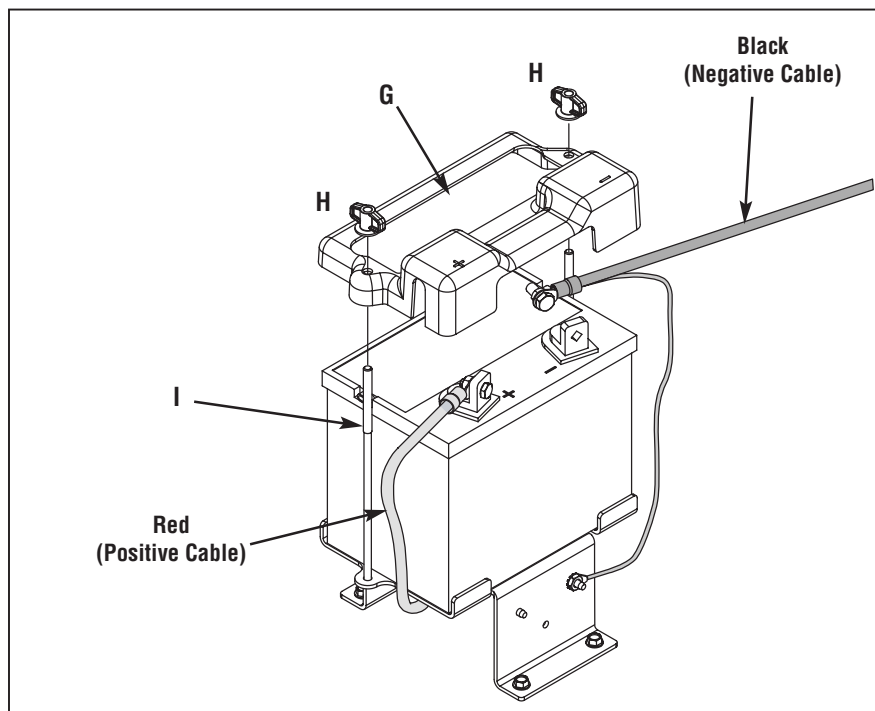

Figure 2-3: Connect wire terminals to battery terminals.
1. Remove the plastic battery cover (G, Figure. 2-3) by unthreading the two wing nuts (H, Figure. 2-3) which secure it to the battery hold-down rods (I, Figure. 2-3)
2. Remove the hex bolt and hex nut from the ground cable / heavy black wire (E, Figure. 2-3).